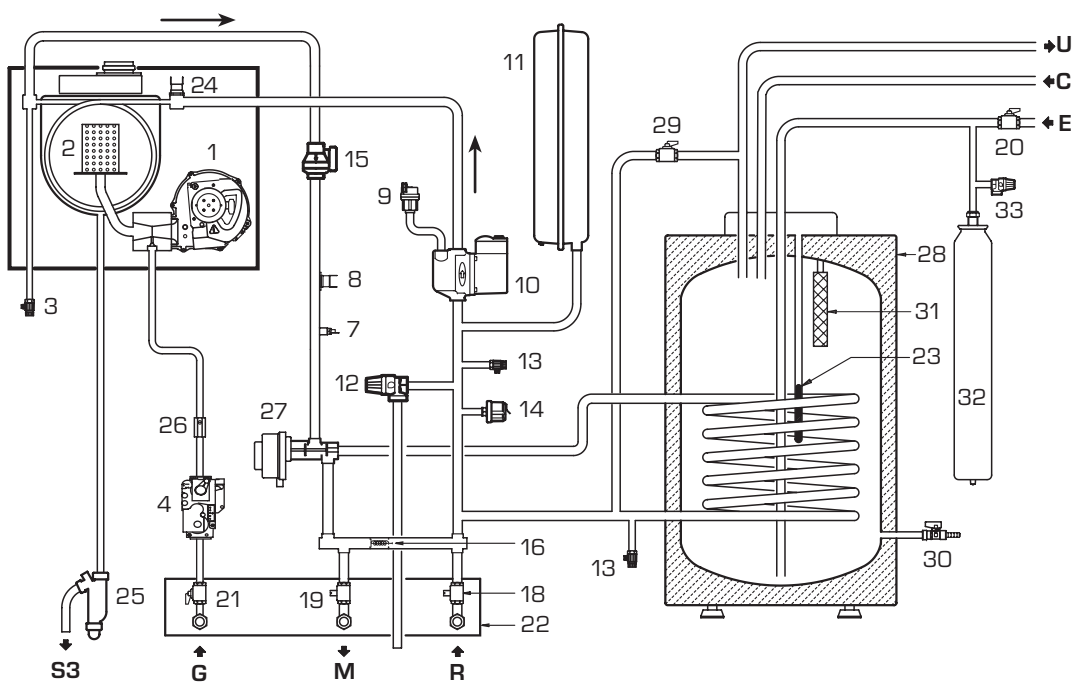

Fig. 2
- "25 BFT - 30 BFT" model: using the fill cock (29 fig. 2).